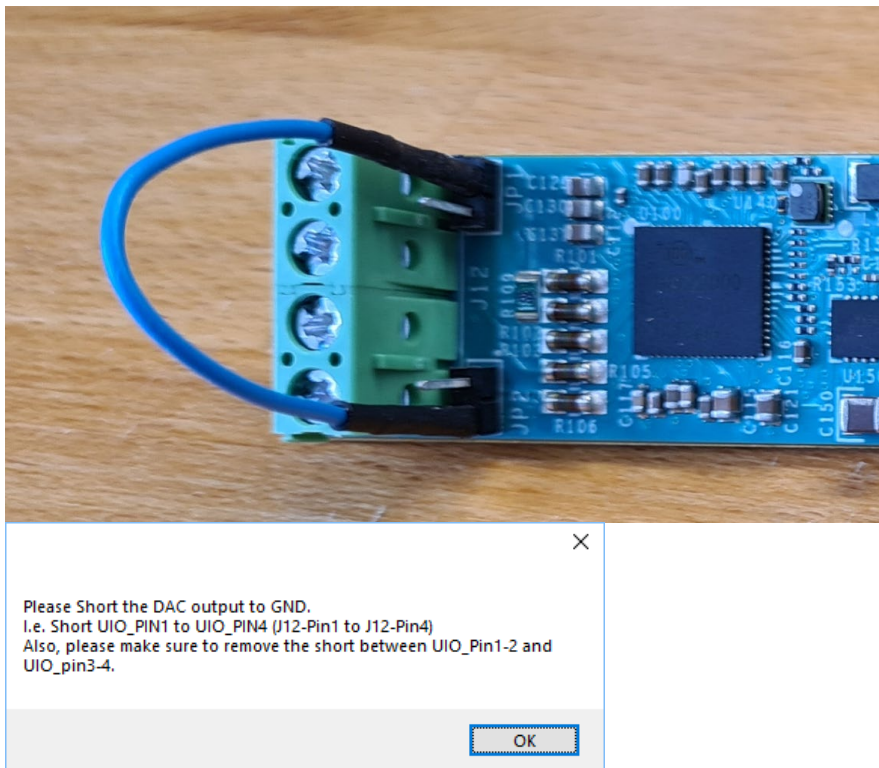

Figure 9. Short output.
16. Once the voltage calibration is finished, the GUI asks the user to remove the jumpers on JP1 and JP2 and to short the UIO (pin 1) to GND (pin 4, in order to perform current calibration). This can be either done on the J12 terminal-block with a short wire or with a jumper-wire on the jumpers (**Figure 9**):